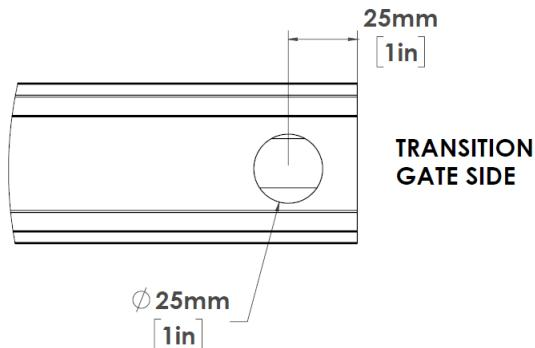

Figure 91: **Fixed Gate Hole Position**
- Drill a 1" diameter hole 1" from the gate side of the fixed gate track, centered across the width of the track (Figure 91).